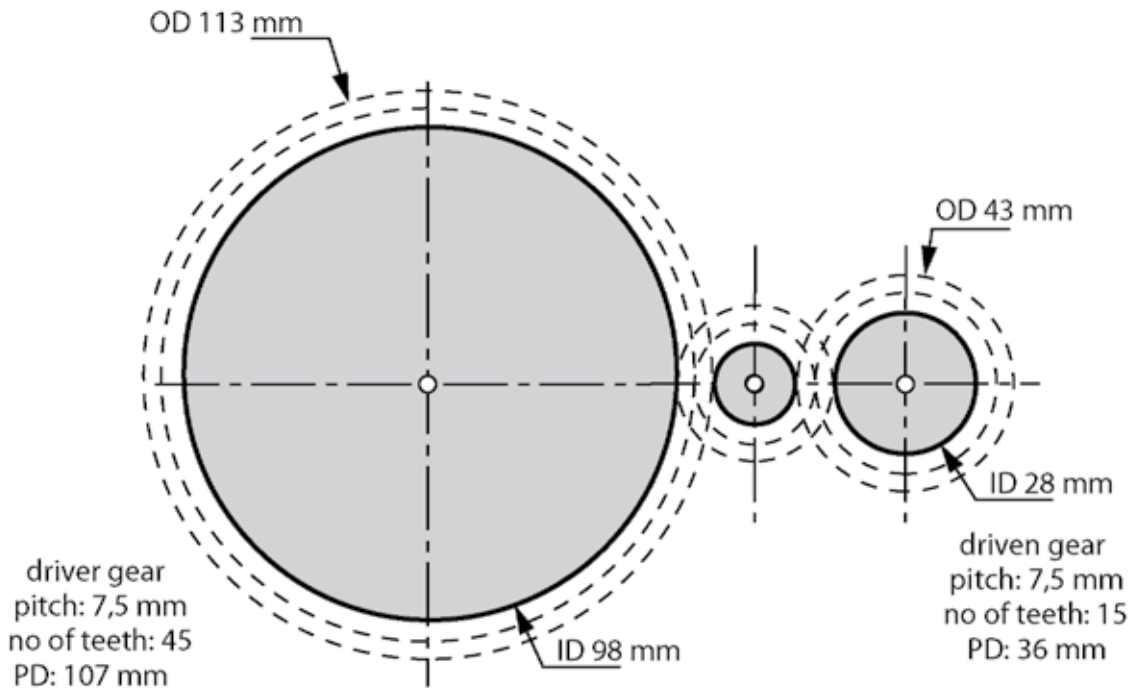
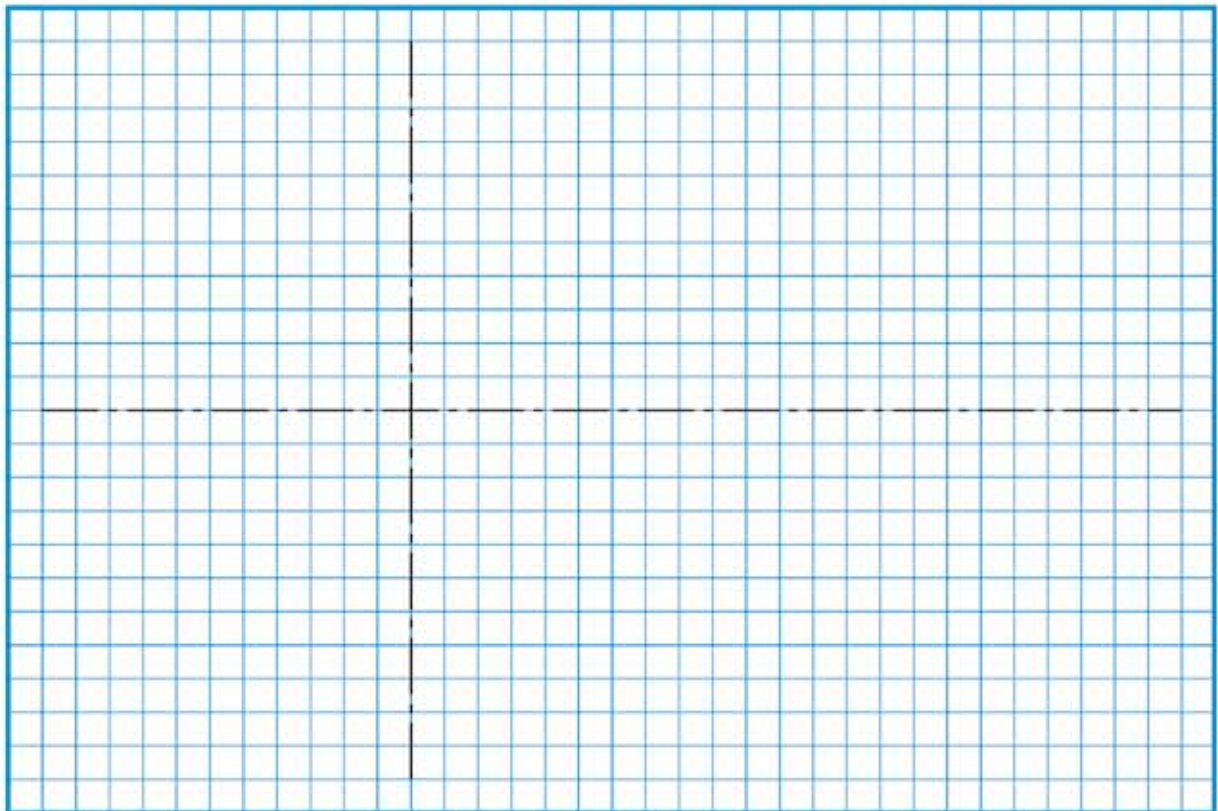

Figure 13
Figure 14: Draw your gear system with an idler gear on this grid paper.
1. Add an idler to this gear system as shown in Figure 13. Now draw this new system on the grid paper in Figure 14.